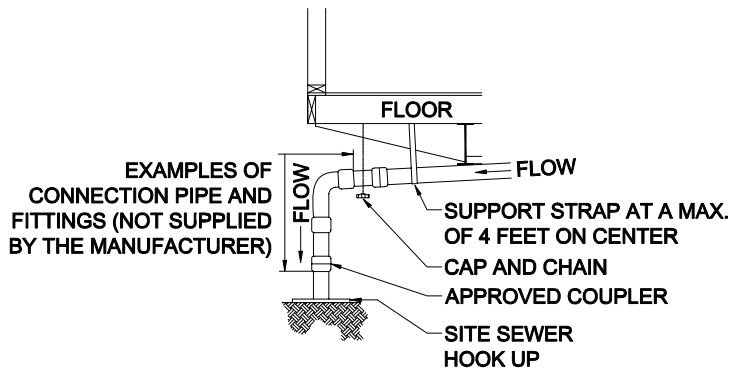

Figure 49. DWV connection to sewer/septic
4. **Connect to outlet.** Connect the main drain line to the site sewer/septic hook-up, using an approved elastomer coupling or by other methods acceptable to the LAHJ (**Figure 49**).